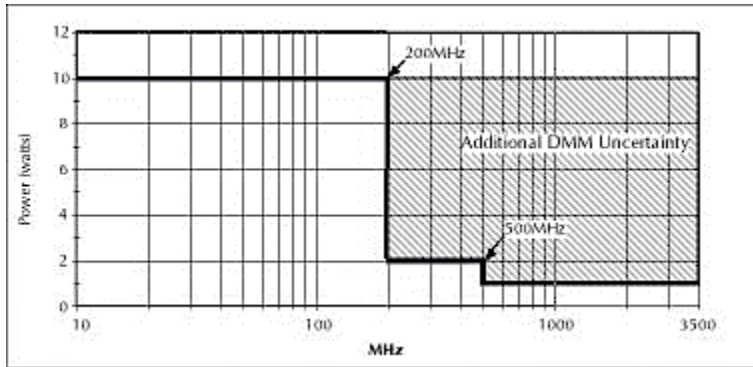

Figure 2. Carry power per channel vs. frequency for the Model 7711 switch module.
- In some applications, the power handling capabilities of the Model 7711 should be considered. The maximum amount of power that can be routed while maintaining proper DMM accuracy is shown in Figure 2. Power levels of up to 10 watts can be used, but this may cause measurement errors. For instance, routing 10 watts of power at 1GHz may cause the DMM to have an additional 10VDC offset uncertainty with measuring DC voltages. Since the Model 7711 is being used only for AC ripple measurement in the example test configuration, power handling should not be an issue.